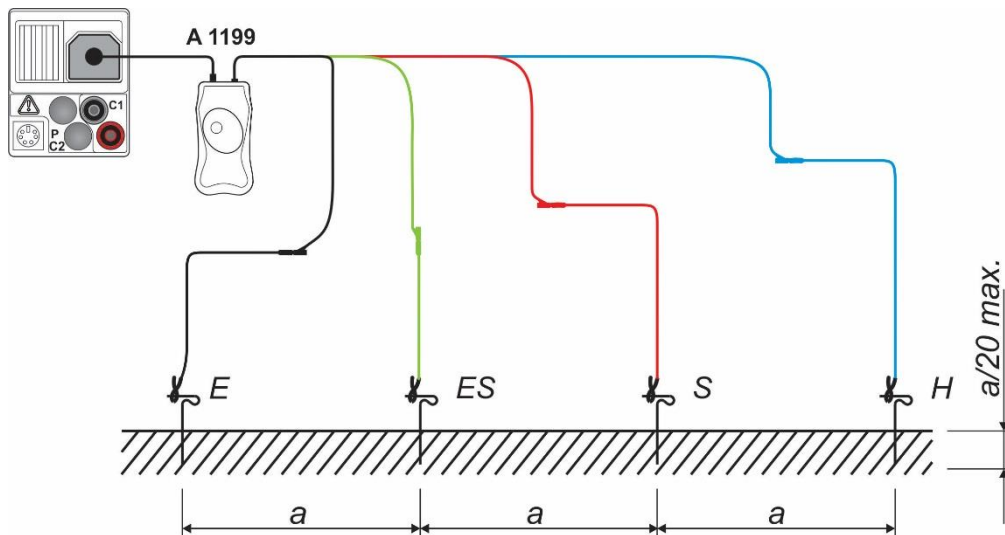

Figure 5.41: Specific earth resistance measurement
- ❑ **Connect** the test leads to earth probes (see Figure 5.41).